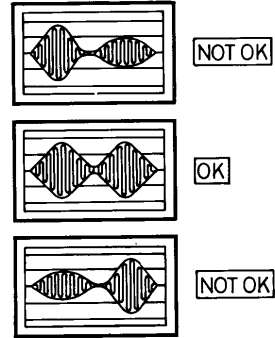

Fig. 4
- Check that the cat's eye pattern (see figure 4) is visible on track 40.